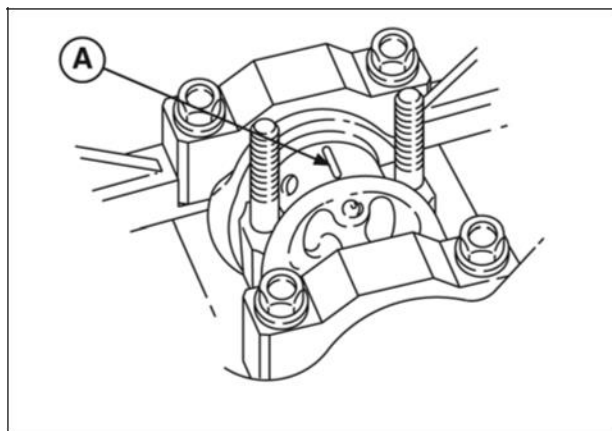

Figure 7
2. Lay a strip of plastigage lengthwise on journal (A, Figure 7).